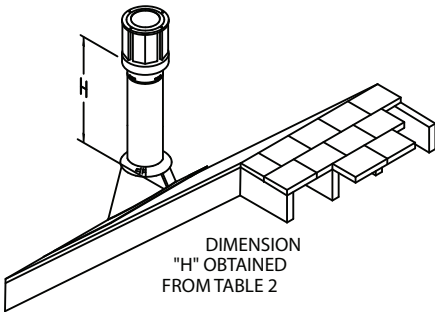

Figure 17
**Step 8.** Continue to add Pipe Sections until the height of the system (before adding the Cap) meets the minimum building code requirements as described in (**Table 3 and Fig. 17**). Note that for steep roof pitches, the vent height must be increased. In high wind conditions, nearby trees,